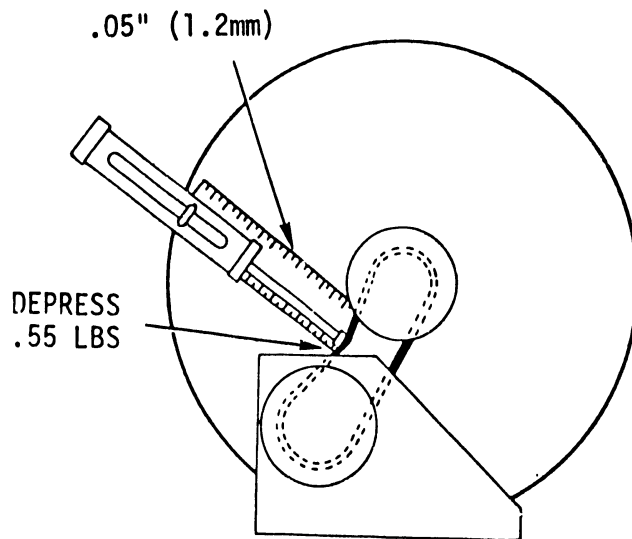

FIGURE 5-29 TACHOMETER BELT TENSION CHECK
- 1) With tach and servo assembly removed from unit a force of .55 lbs. (250 grams) should deflect belt .05" (.12 cm). See Section (c) for removal. See Figure 5-29.